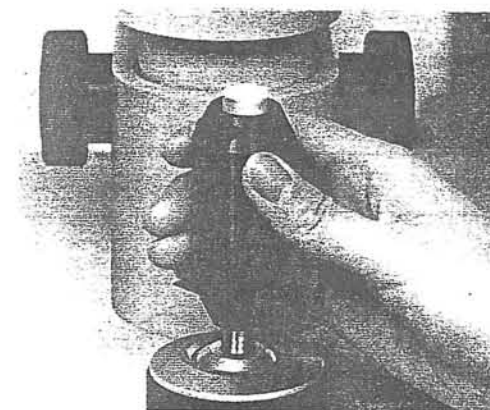

Fig. 36
5. Select the eye to be photographed. The main unit and the stage slide right and left as required, by keeping the manipulation rod turned counterclockwise while holding it in an almost vertical position. (Fig. 36)